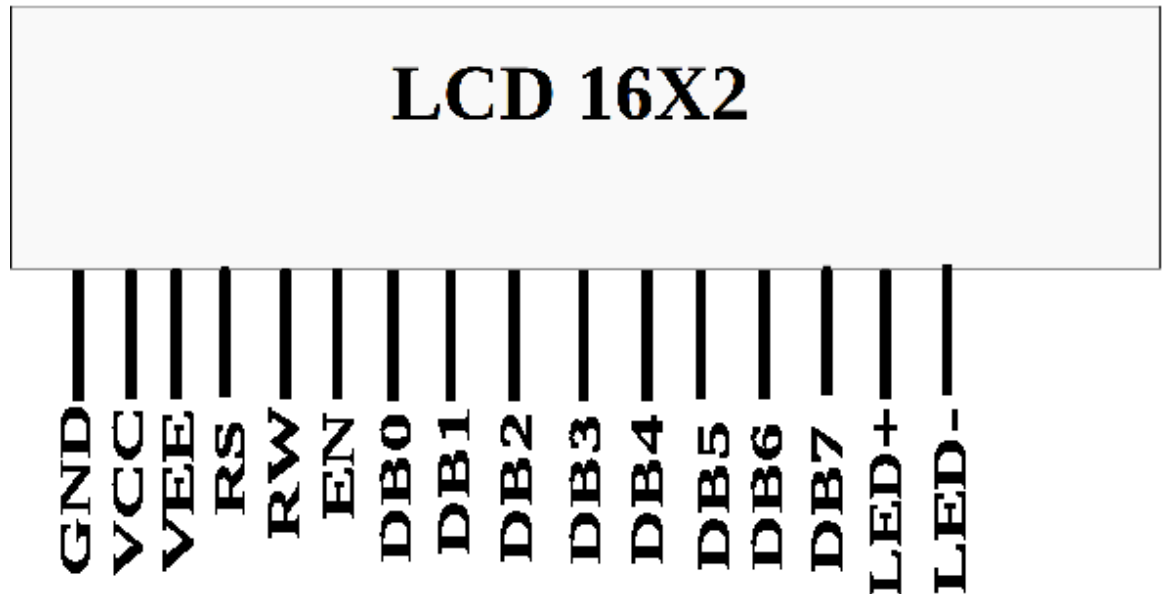

Figure 1.2.1.1: LCD pins
1.2.1. Plug the LCD in Fig. 1.2.1.1 to the breadboard.